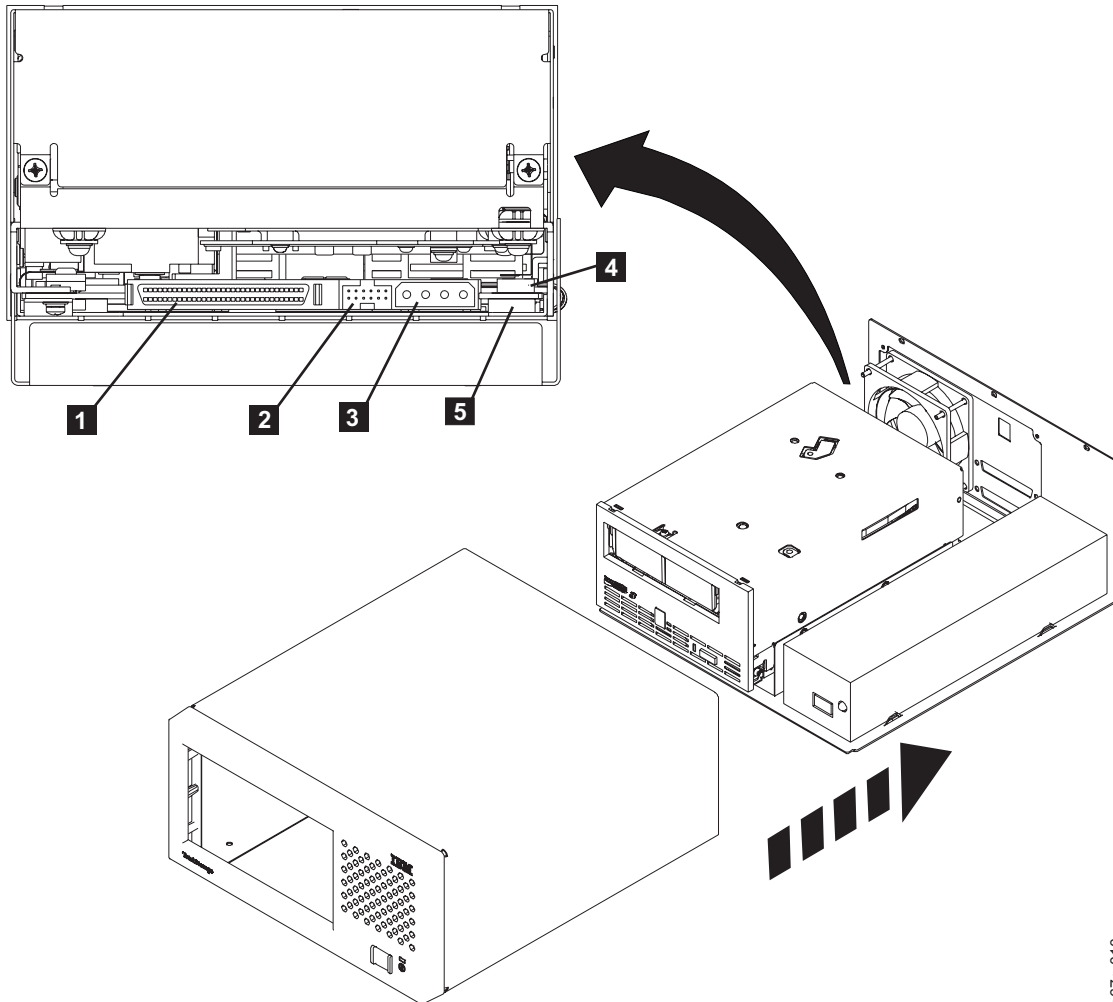

Figure F-3. Removing cables from the internal drive
7. Gently push on the drive's front bezel below the cartridge load compartment to remove the chassis from the cover (see Figure F-3).
1. Unplug the internal power cable (**3** in Figure F-3) from the drive.
2. Unplug the internal SCSI address cable (**2** in Figure F-3 on page F-2) from the drive (SCSI drive only).
3. Unplug the internal interface cable (**1** in Figure F-3 on page F-2) from the drive.